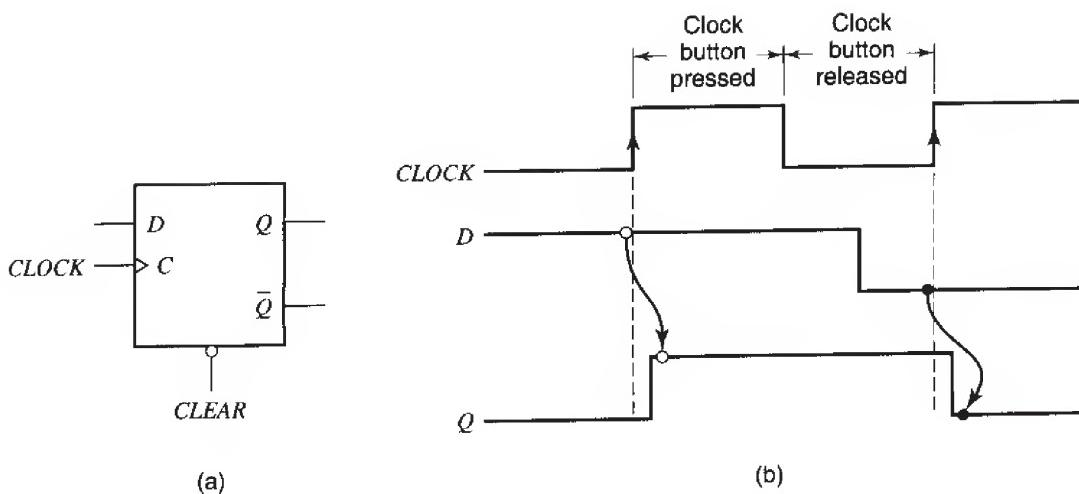
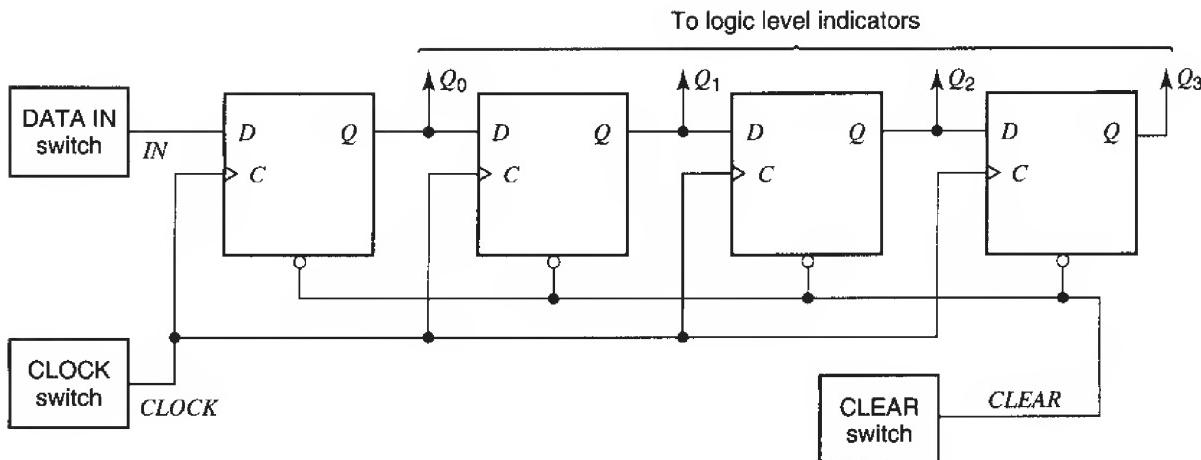

Fig. 2
Fig. 7
A *positive-edge-triggered D flip-flop* is shown in Fig. 2(a). Assume first that the *CLEAR* signal is high. Then the flip-flop has the following property: *Data at the input, D, is transferred to the output, Q, when the clock signal makes the transition from low to high.* That is, if the input D is steady at a logic 1 when the clock goes to high, the input logic 1 is transferred to the output Q; if, instead, the input is 0 when the clock goes to high, this 0 is transferred to the output. The data is held at the output until the next low-to-high clock transition. These properties are illustrated in Fig. 2(b). In this figure, we also indicate the fact that the new output appears after a very small delay (typically in the tens of ns). Since the input data are transferred to the output when the clock goes from low to high, this is called a positive-edge-triggered D flip-flop. For correct operation of this flip-flop, the data at D must be steady before the clock low-to-high transition takes place, at least for the minimum time specified by the flip-flop manufacturer (e.g., for 20 ns).
10. Consider the four-stage shift register in Fig. 7, but do not build it yet. Assume that all outputs are cleared and then a 1 is placed at the input  $IN$ . Assume that the clock button is pressed and released once. What will the values of  $Q_0$ ,  $Q_1$ ,  $Q_2$ , and  $Q_3$  become? [Hint: When the clock goes from low to high, each flip-flop transfers to its  $Q$  the value that existed at its  $D$  just before the clock transition; see Fig. 2(b).]
11. Now build the circuit of Fig. 7. All four D flip-flops needed can be found inside the same 74LS175 chip, the pin assignment for which was given in Fig. 4. It will help if, before starting to build the circuit, you mark Fig. 7 with the appropriate pin numbers from Fig. 4. Be sure to connect the ground and supply pins. If no logic level indicators are provided on your breadboard, use four indicators of the type shown in Fig. 5.
19. Lower the frequency of the signal to 1 Hz. *Disconnect the clock switch circuit from the input of the shift register of Fig. 7*, and connect instead your function generator output to it, as shown in Fig. 8. The LED at the function generator output should be lighting up 1 time per second.